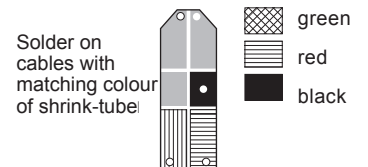

Fig. 3
- 5. Solder the cables on the circuit-board (2), which is not yet inserted into the signal screen according to Fig. 3. (LED's are placed at the front side.) Solder only a short time! Do not 'roast'! The LEDs and the circuit board are sensitive to heat. Use only little solder! Take care that the fields are not being connected electrically!